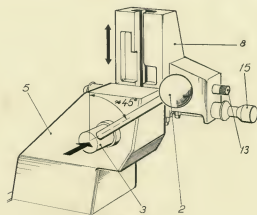

Fig. 4
1. Remove clamping head (8) as follows:
- a) Set lever (2) at about 45° angle as shown in fig. 4.
- b) Set symbol \equiv on score selector (13) upwards.
2. Insert Allen wrench (39) into screw (33) and adjust spring pressure as follows:
3. Replace clamping head (8) as follows (See fig. 4):
- a) Check that locking lever (2) is at about 45° .
- b) Press shaft (3) to the right with left hand and push simultaneously down clamping head (8) into bracket (5) with the right hand.